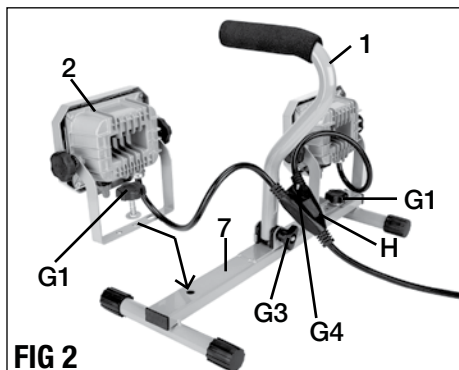

FIG 2
ATTACHING WORK LIGHT HEADS TO STAND (FIG 2)
1. Place the stand (7) on a flat surface.
2. Rotate the carrying handle (1) straight up. Tighten the handle locking knob (G3) to secure it in place.
3. Use the locking knobs (G1), flat washers and spring washers to secure both work light heads to the sides of the stand as shown in FIG 2.
4. Hang the power cable splitter (H) on the hook (G4).